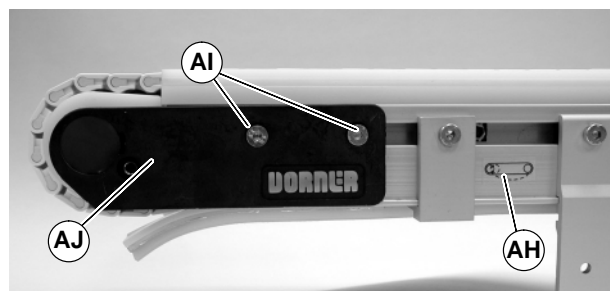

Figure 16
- On idler end of the conveyor identified with a  label (AH of figure 16), loosen fastening screws (AI of figure 16) on both sides of conveyor. Push head plate assembly (AJ) inward.